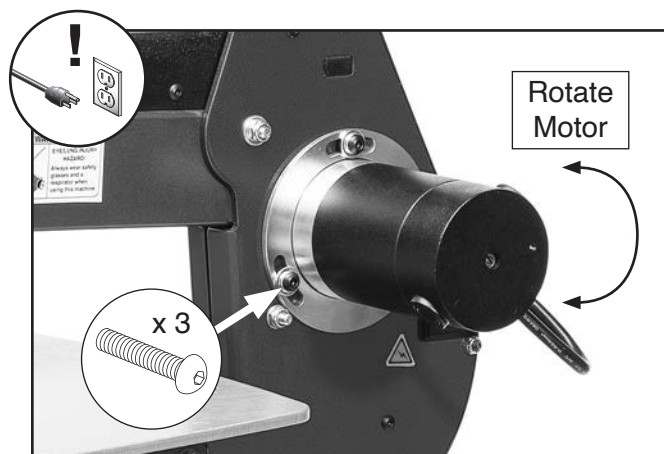

Figure 24. Motor rotation.
6. Loosen (3) screws on motor mount and rotate motor (see **Figure 24**) until back of blade is square to table, then tighten screws.